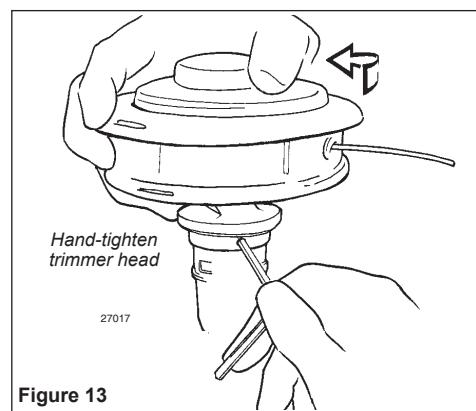

Figure 13
6. Using a counter-clockwise rotation and hand pressure alone, thread and securely tighten the trimmer head into the gearcase shaft. See Figure 13.